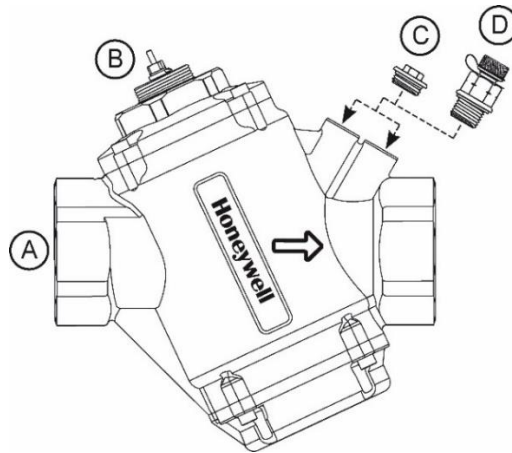

Figure 6 DN40-50 Valve Components
4. See Figure 6 to familiarize yourself with the valve and its components. The Valve Body (A) is the housing marked with an arrow to show flow direction. The Flow Regulator (B) which is fixed with valve body, regulates flow.